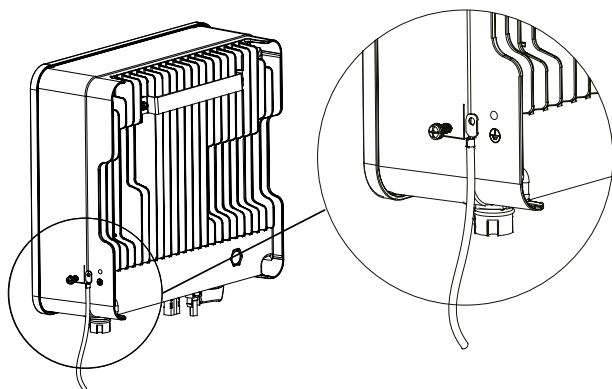

Fig. 21. Earthing terminal connection.
2. Fasten the earthing connection terminal to the PE cable with a suitable tool and lock the earthing connection terminal to the earthing connection hole on the bottom right side of the inverter, as shown in Fig. 21.